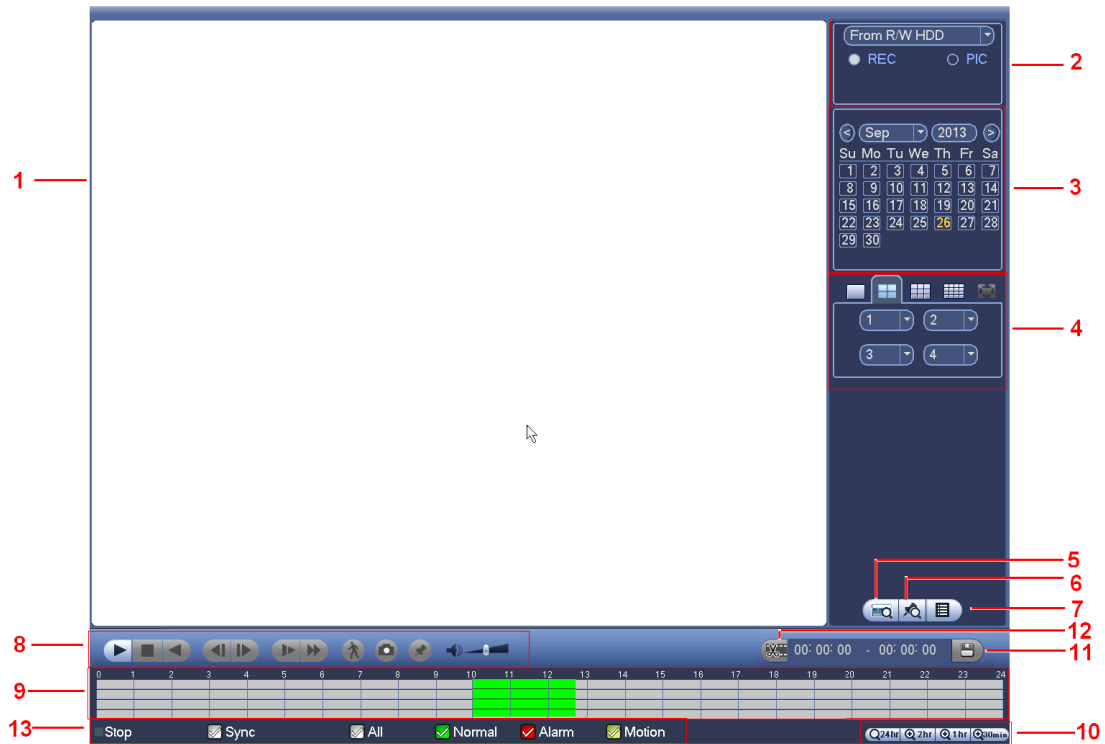
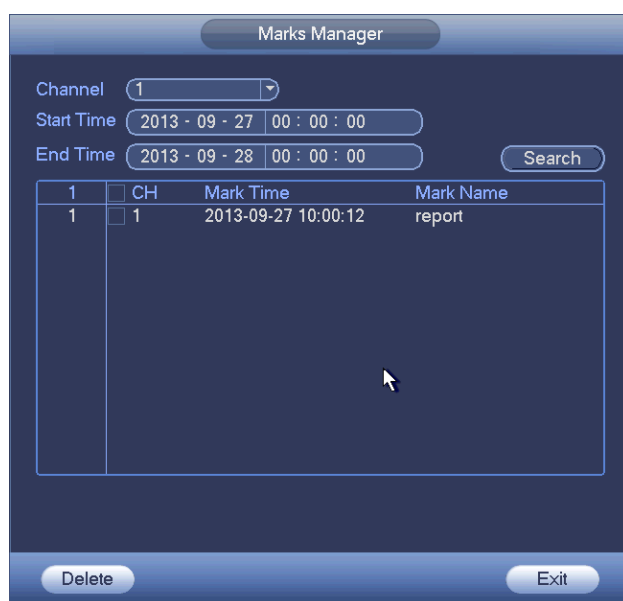

Figure 4-34
Figure 4-38
Click search button in the main menu, search interface is shown as below. See Figure 4-34.
**Please make sure your purchased device support this function. You can use this function only if you can see the mark playback icon on the Search interface (Figure 4-34).**
During 1-window playback mode, click mark file list button  in Figure 4-34, you can go to mark file list interface. Double click one mark file, you can begin playback from the mark time.
Click the mark manager button  on the Search interface (Figure 4-34); you can go to Mark Manager interface. See Figure 4-38. System can manage all the record mark information of current channel by default. You can view all mark information of current channel by time.